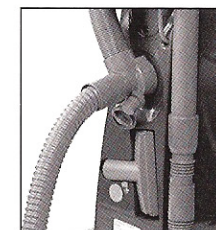

Fig. 34
1. **How to connect the hose assembly to the vacuum cleaner:** Pull out and open the suction control dial by turning the lid located on the back of the vacuum cleaner. Insert the soft, rubber end of the hose assembly into the cleaning attachment opening. Push in while twisting the hose end to ensure the hose is fastened securely (Fig. 34).